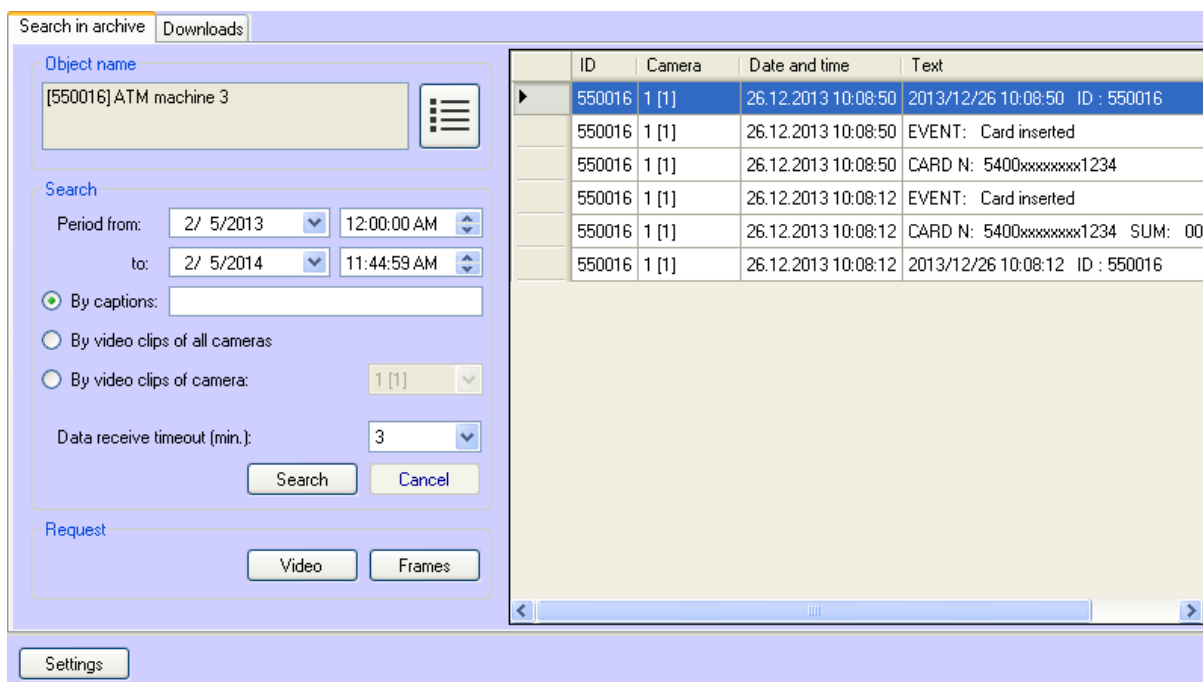

Fig. 5.2—2 Search results
5. If search is successful, the archive results are shown as a list of entries (Fig. 5.2—2). Only 500 results can be displayed.